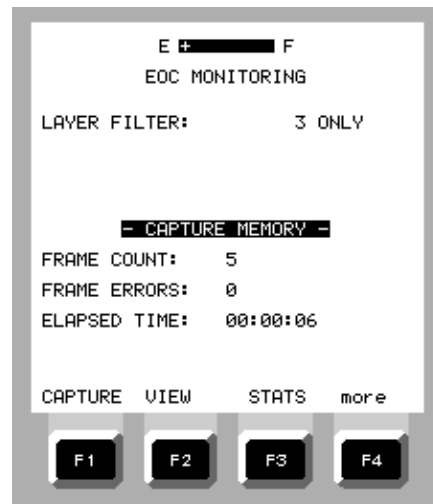
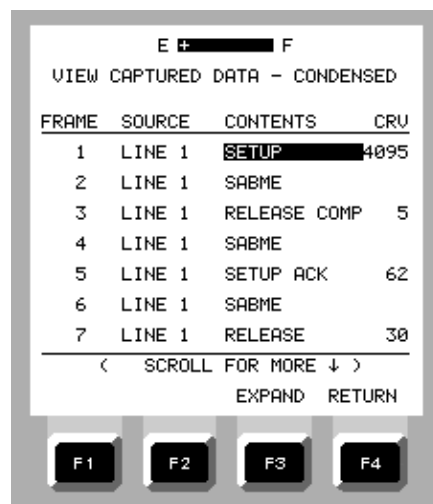

Figure 2-117. EOC CHANNEL MONITORING Menu
Figure 2-121. VIEW CAPTURED DATA - CONDENSED Screen
- b. EOC CHANNEL - Allows capture and display of layer 2 (LAPD) messages on the EOC (Figure 2-117).
During capture, or after the capture is stopped, the TMC / CSC MONITORING menu displays the FRAME COUNT, FRAME ERRORS, and ELAPSED TIME of the data capture (Figure 2-117). By pressing F2 (VIEW) on the TMC / CSC MONITORING menu, the VIEW CAPTURED DATA - CONDENSED screen is displayed (Figure 2-121).